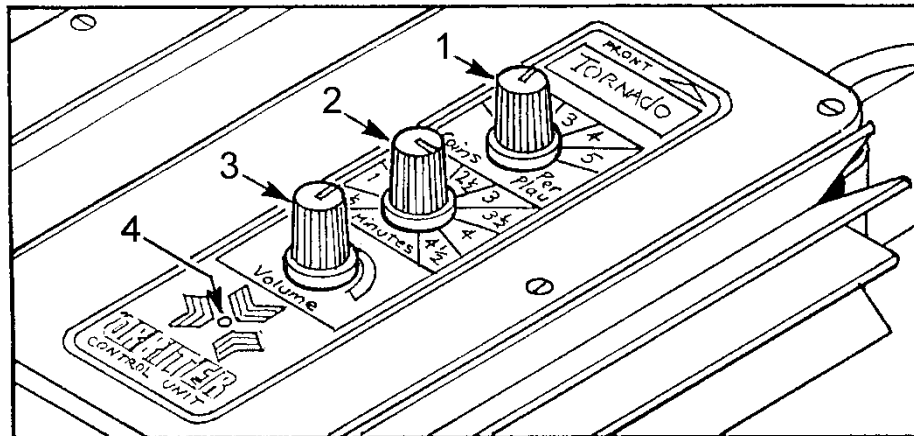

Fig 3.2 - Orbiter Control Electronics
The principal features of the control electronics are shown in Figure 3.2 below.
1. Set the ORBITER control unit selectors (Fig 3.2) to the required settings.